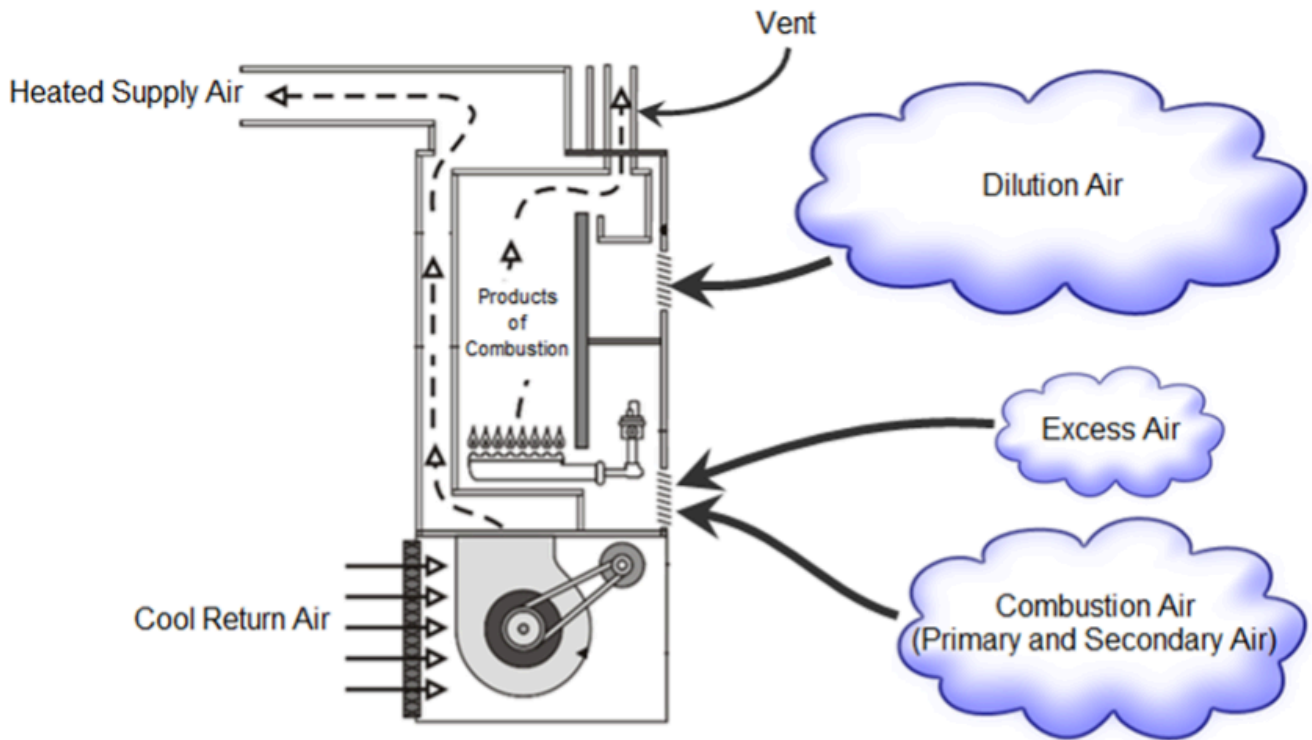

Figure 4. Room air requirements
Non-direct vent gas appliances draw all of their air supply requirements from the internal room air. The amount of air required will depend on the type of appliance(s) in the room. If an appliance is a natural draft appliance designed to operate with a draft control device, it will require a larger volume of air supply than equipment designed to operate with no draft control device, based on the dilution air requirement (Figure 4).
- Figure 4. “Room air requirements” – The source for this image is unknown. It is being used for non-commercial, educational purposes. To receive credit for this image, please reach out to the publisher.